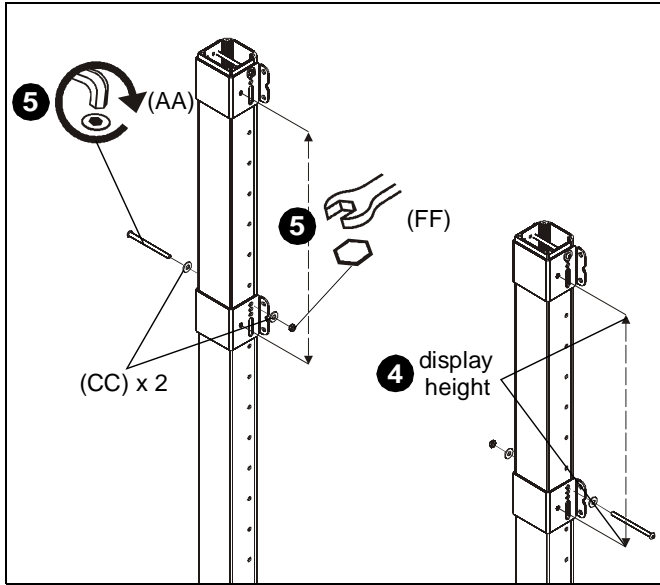

Figure 7
4. Measure one screen height down from center point on installed clamp brackets to determine mounting location of lower clamp brackets. (See Figure 7)
5. Use 5/16-18 x 4 1/2" button head cap screw (AA), two 5/16" washers (CC) and 5/16-18" lock nut (FF) to install clamp brackets for lower displays with center diamond one screen height below center diamond of upper installed brackets. (See Figure 7)